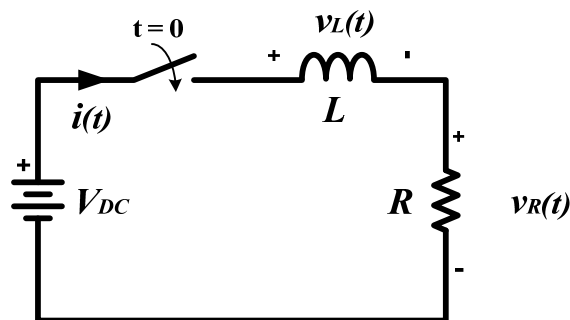

Figure 9.1 – Transient Response of an R-L Circuit
Note – Use the following values for the circuits shown in Figures 9.1 and 9.3:
1. Given the circuit in shown in Figure 9.1, **perform a transient analysis** of the circuit in order to determine expressions for the resistor voltage, the inductor voltage, and the current, all as functions of time for $t \geq 0$.
20. Build an R-L series circuits, similar to that shown in Figure 9.1, but replace the DC source and switch combination with a function generator.